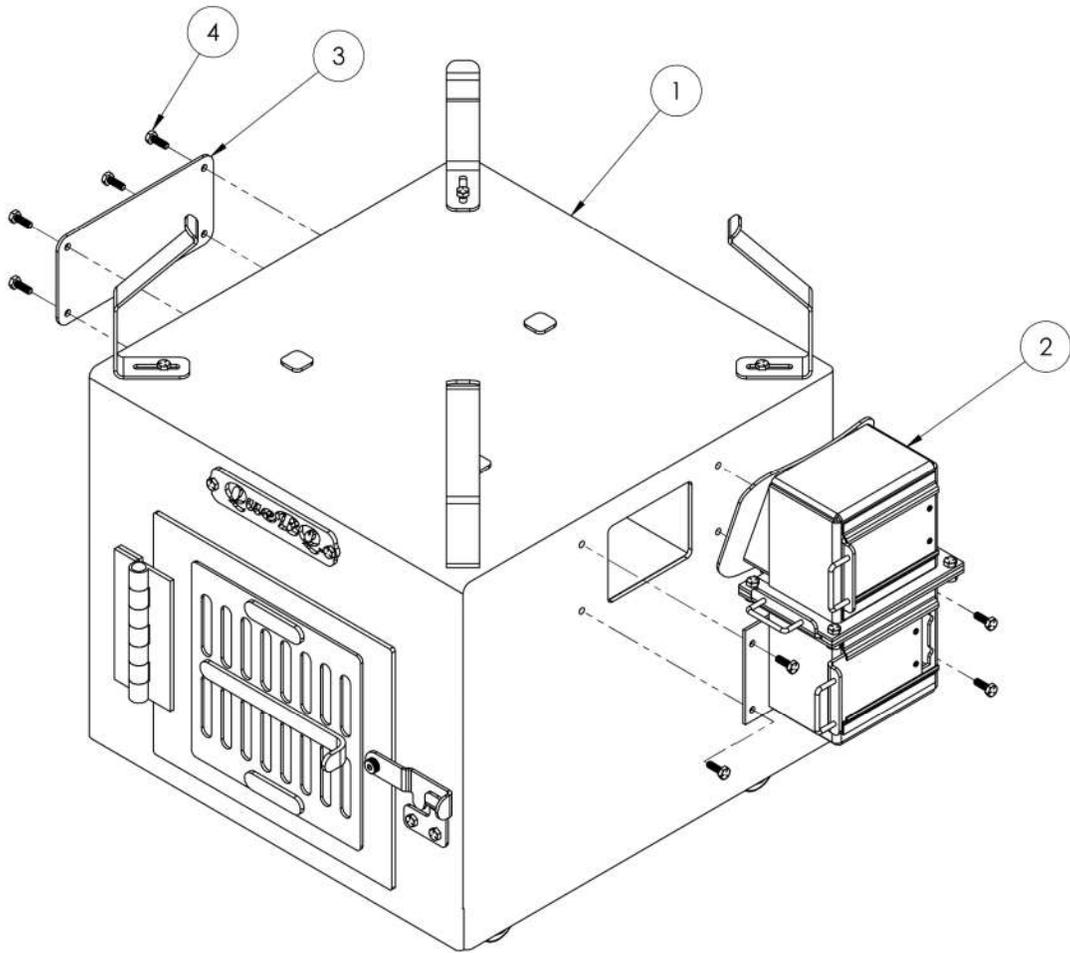

Figure 1
See Figure 1 -
Install the chimney on the firebox. (See Figure 1) Bolt the chimney to the firebox with (4) 1/4" x 3/4" SS Screws. Bolt the face plate to the unused chimney connection on the opposite side of the firebox.
Install kamado braces. Bolt in the four support arms on as shown in Figure 1 with (4) 1/4" x 3/4" SS Screws. Braces should be in contact with the kamado body, but not stressed or tight.